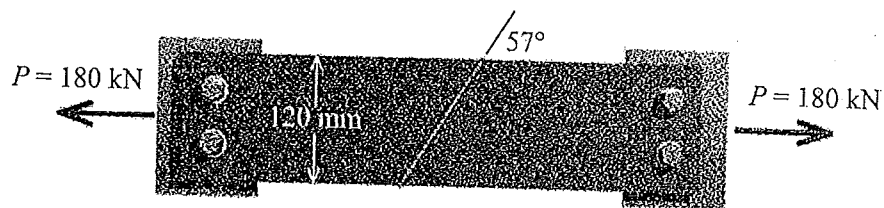

Figure 3
- [b] A 120-mm-wide steel bar with a butt-welded joint, as shown in Figure 3, will be used to carry an axial tension load of $P = 180$ kN. If the normal and shear stress on the plane of the butt weld must be limited to 80 MPa and 45 MPa, respectively, calculate the minimum thickness required for the bar.